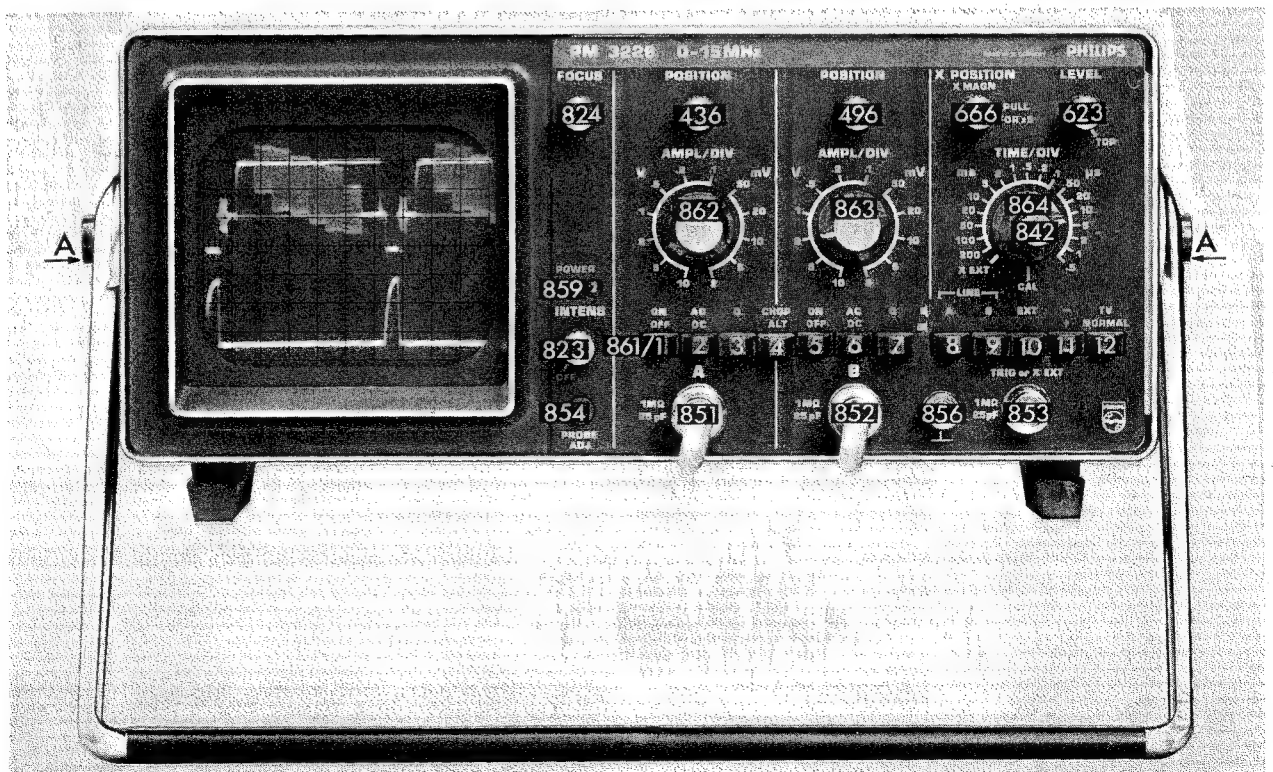

Fig. 2.2. Front view showing controls and sockets
The instrument may be used horizontally or in several sloping positions by employing the carrying handle as a tilting bracket. To release the handle, push both pivot centre buttons A (see Fig. 2.2).
2.1.6. Controls and sockets (Fig. 2.2)